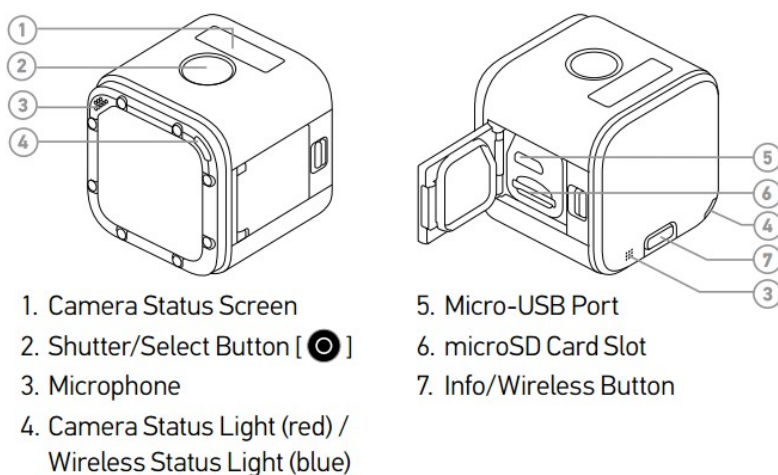

Figure 7: GoPro[®] HERO4 Session[™] Camera Parts
- Refer to Figures 7 and 8 for camera and tablet setup